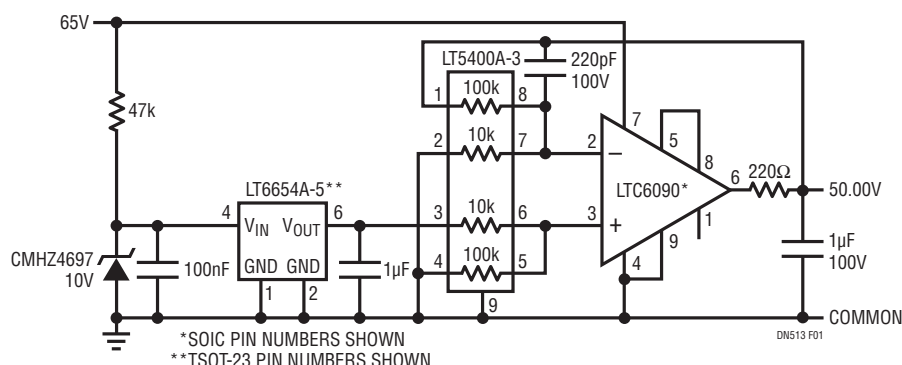
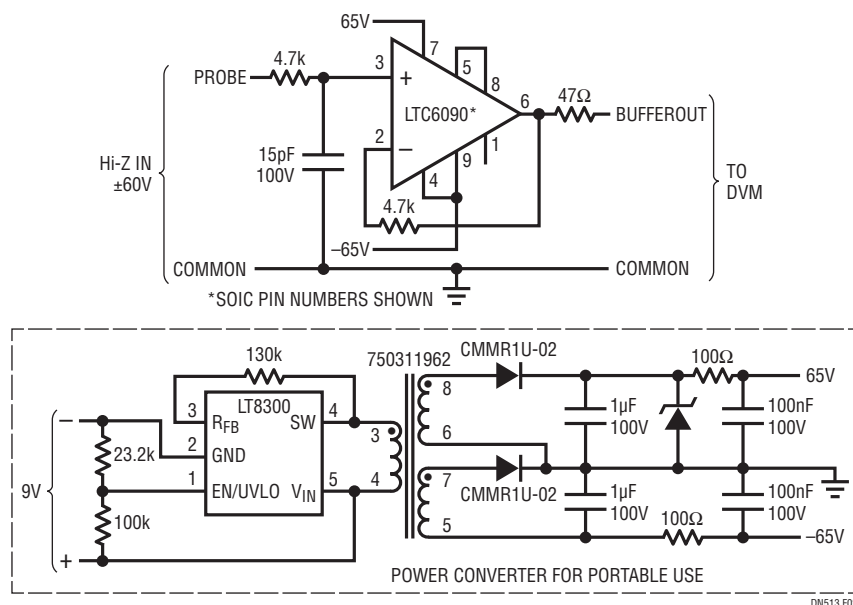

Figure 1. High Voltage Precision Reference
Figure 2. Buffered Probe for Digital Voltmeter
On the other hand, there is lasagna! The noodles are layered, giving the meal structure. Code developed using layers not only is easier to understand, it has the potential to have one layer removed and a new layer added, basically allowing for reuse and ease in maintainability. **Figure 1** shows an example of a simple software model that uses the lasagna model.
**Figure 1** Code developed using layers is easier to understand, and it has the potential to have one layer removed and a new layer added, allowing for reuse and ease in maintainability.
The LTC6090 is capable of 140V output levels in single-supply operation, so amplifying a quality 5V reference is a simple matter of using accurate resistor networks to maintain precision. The LT®5400 precision resistor array handles voltages up to 80V, so utilizing the 10:1 ratio version for a gain of 10 is an easy way to produce an accurate 50V calibration source without any adjustments required. Figure 1 shows a circuit amplifying the LT6654A 5.000V reference to 50.00V with better than 0.1% accuracy. The circuit may be powered from 55V to 140V, with 65V being a useful supply voltage furnished from the optional portable supply shown as part of Figure 2.
The entire circuit of Figure 1 draws about 4mA of quiescent current and can drive 10mA loads.
As shown in Figure 2, the LTC6090 can easily be powered with a split supply, such as a small flyback converting battery source. This basic circuit can provide precision measurement of voltages in high impedance circuitry and accurately handle signal swings to within 3V of either supply rail ( $\pm 62$ V in this case). With input leakage current typically below 5pA, circuit loading is essentially inconsequential ( $<V_{OS}$ ) for source impedances approaching a gigaohm. The useful full-swing frequency response is over 20kHz.